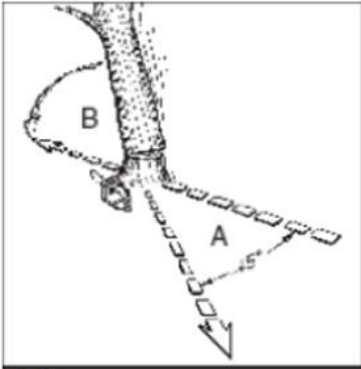

Fig 3a
Warning: Before starting to cut, an escape route (A) must be provided and cleared. The escape route must extend backwards and diagonally, opposite the direction of fall, as in Fig. 3a.
WARNING: When the felling cut approaches the hinge, the tree should begin to fall. When the tree begins to fall, remove the saw from the cut, stop the engine, lower the chainsaw and leave the area on the escape route (Fig. 3a).